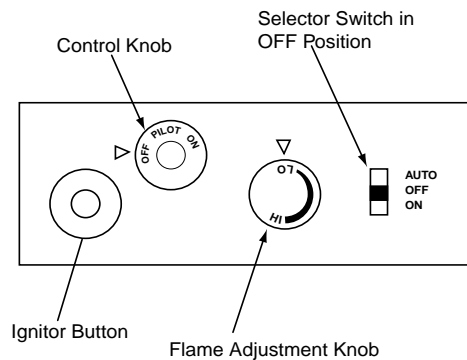

Figure 13 - Control Knob and Ignitor Button Location, Remote Ready Units.
4. Press in and turn control knob clockwise to the OFF position (see Figure 13).
5. Wait five (5) minutes to clear out any gas. Then smell for gas, including near the floor. If you smell gas, **STOP!** Follow "B" in the safety information, starting in column 1 of this page. If you don't smell gas, go to the next step.
6. Press in and turn control knob counterclockwise to the PILOT position. Press in control knob for five (5) seconds (see Figure 13).